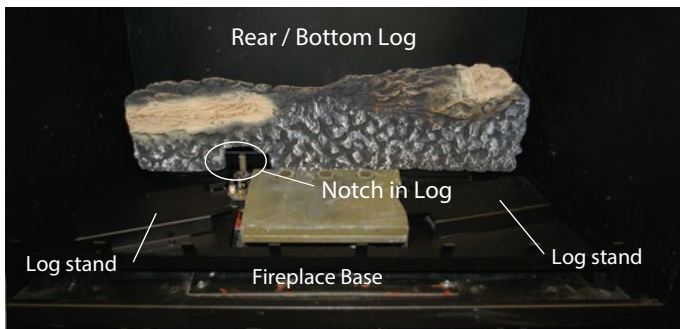
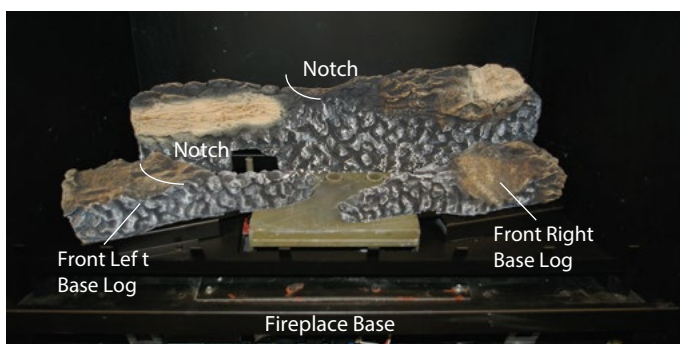

Figure 8b. Bottom/Rear log placement.
Figure 8c. Front base logs placement.
Step 2. Install Bottom Rear log as shown in **Figure 8b**.
Step 3. Install Both front base logs, (**Figure 8c**) on the log stands provided. See **Figure 8b**.